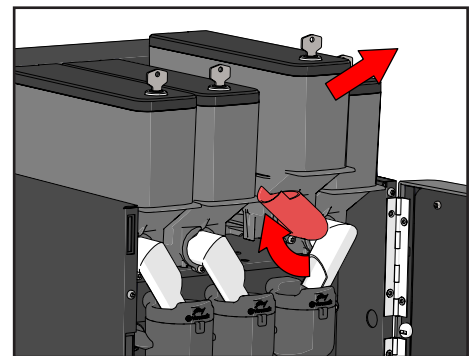

Figure 34.
6. Turn the canister spouts upwards and remove the canisters from the machine one by one (see Figure 34).